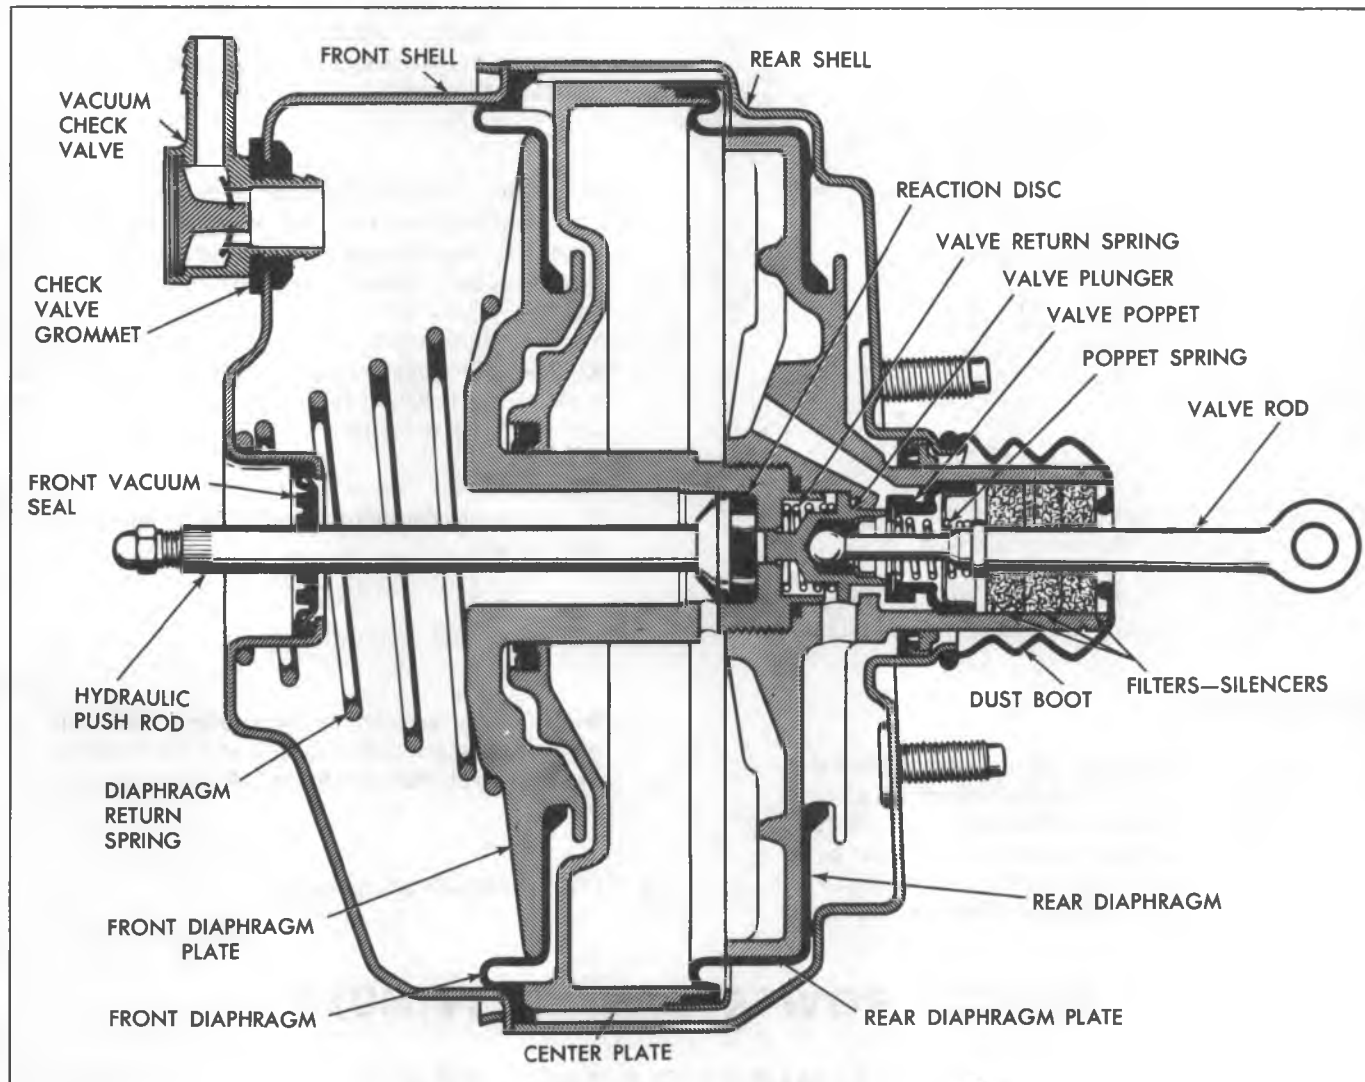

Fig. 1C—Bendix Double Diaphragm Cross Section
**Disassembly (Figs. 1C and 2C)**